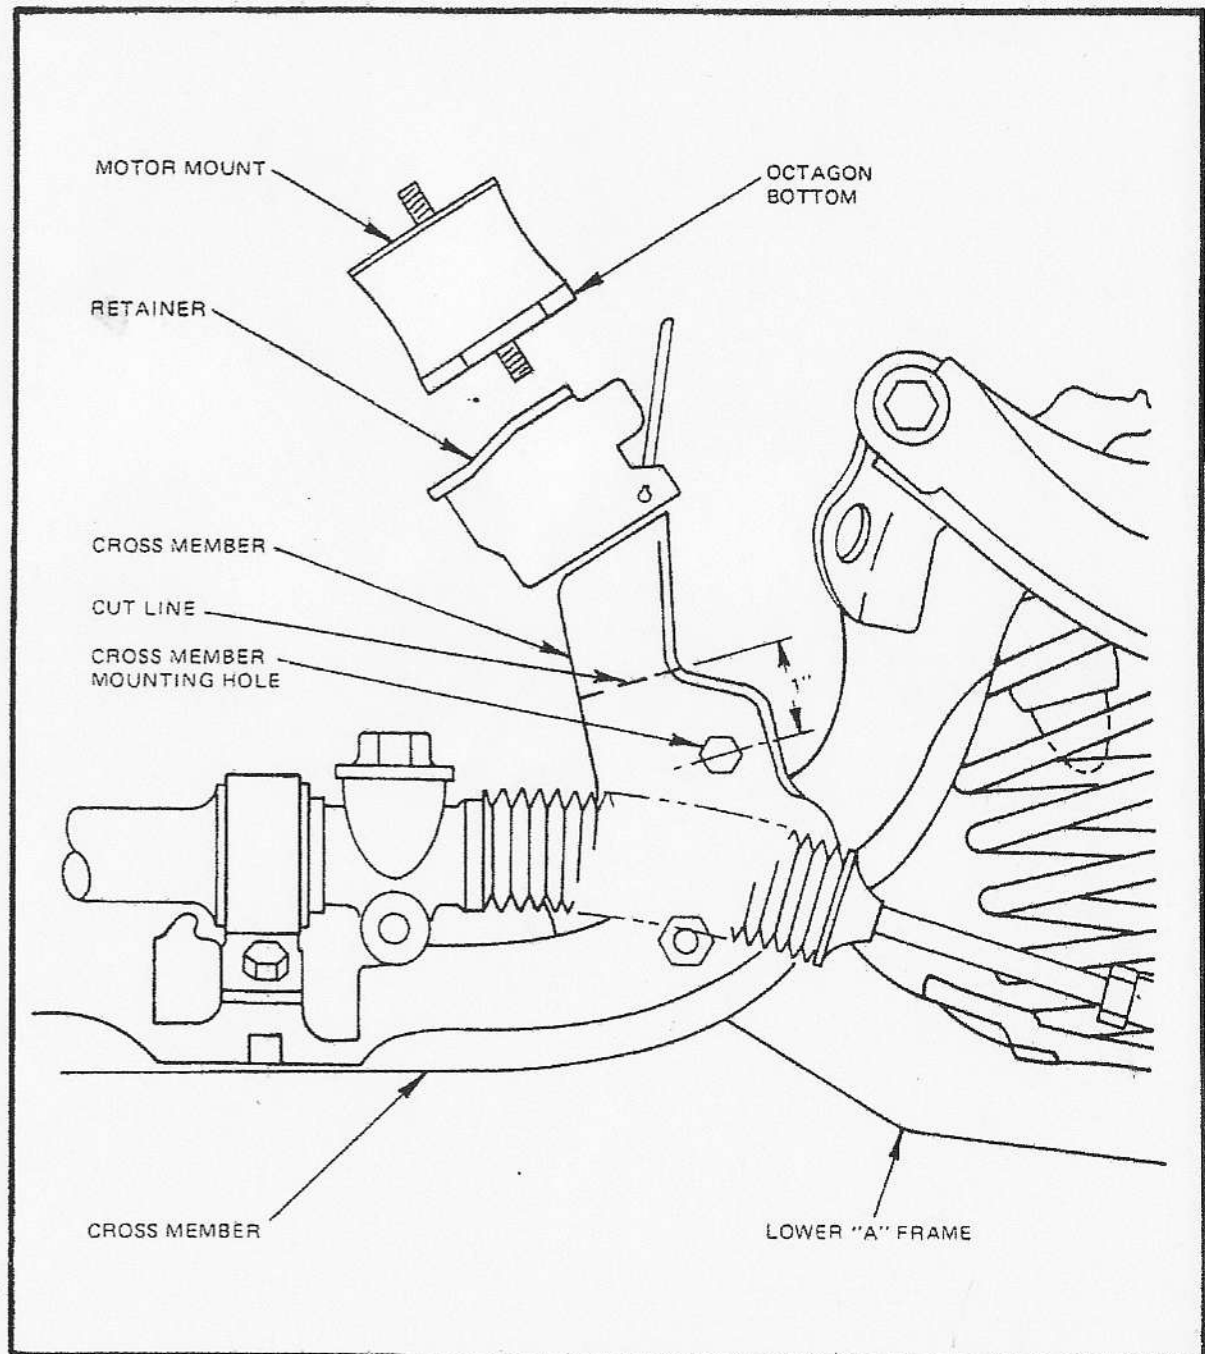

Figure 15
- ✓ Insert long factory bolts into hole below cut section of cross member (Figure 15) Secure with factory nuts. Finger tighten.